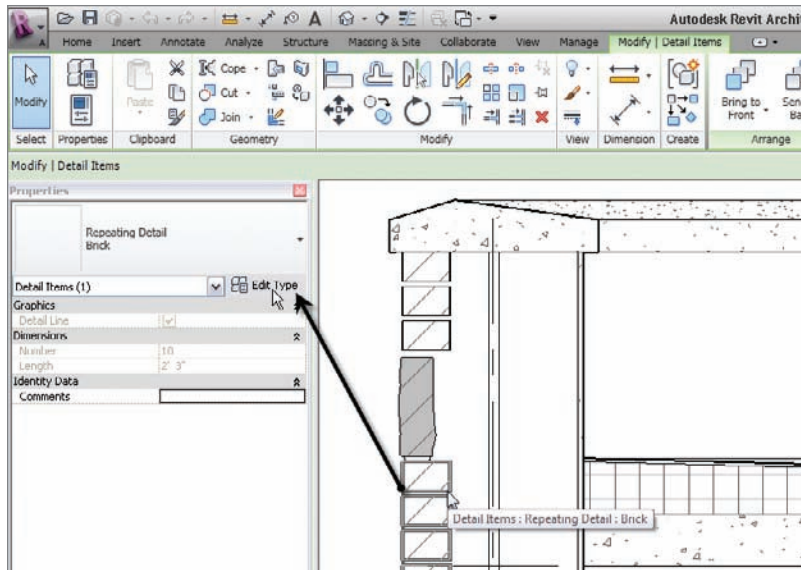

FIGURE 12.33 Click the Edit Type button after selecting one of the brick repeating details.
2. Select one of the repeating details, as shown in Figure 12.33.
3. In the Properties dialog, click the Edit Type button, as shown in Figure 12.33.